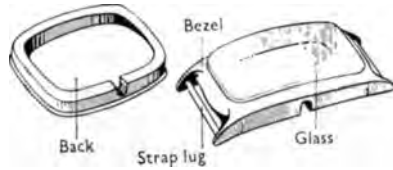

Fig. 69. Wristwatch case.
**Wristwatch cases.** Many are designed similar to pocket watches but the modern trend is to fit movements into two-piece cases as shown in figure 69. The bezel either fits over the back as illustrated or snaps on. Because the two-piece case has only one detachable part, the possibility of dirt and dust entering the case is reduced. This type of case is becoming increasingly popular among manufacturers.